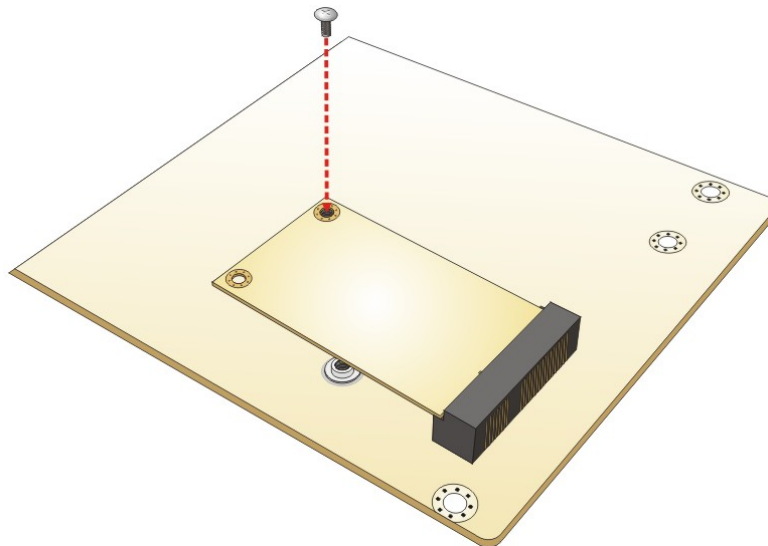

Figure 6-9: Securing the Full-size PCIe Mini Card
Step 4: Press the other end of the PCIe Mini card down and secure the card with the previously removed retention screw (Figure 6-9).